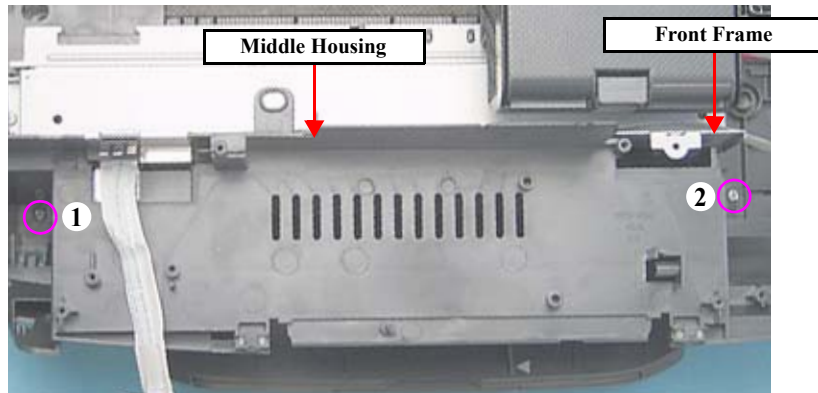

Figure 4-79. Removing the Middle Housing (1)
- Tighten the screws in the order given in Fig.4-79.